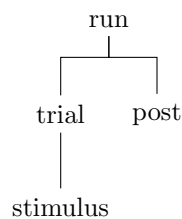

Figure 3: Single stimulus event hierarchy
When defining events, it is helpful to think about hierarchies. In the current example, our event hierarchy will look like Figure 3. More on event hierarchies in Unit 2.
Just as in the **Design** tab (Figure 3), Figure 6, ①, shows the Event Configuration table that you created earlier. Here you will be able to edit the event parameters and visualize how the hemodynamic response changes based on your design changes. You can also change the TR length in Figure 6, ②. To visualize the ideal hemodynamic response of the defined events, click **signal** button (Figure 6, green circle).